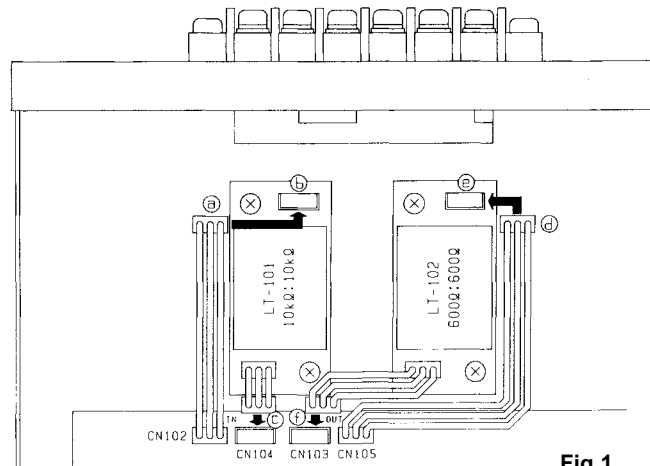

Fig.1
3. Install sleeves (supplied with the transformer) by tightening screws from the other side of a chassis, and mount the transformer to the sleeves using screws. See Fig. 1. The input transformer must be located on the left and the output transformer on the right.
4. When mounting the input transformer, detach ① connector from CN-104, reconnect the detached connector to ② connector at the transformer side, and then connect ③ connector from the transformer to CN104.
See Fig.1.